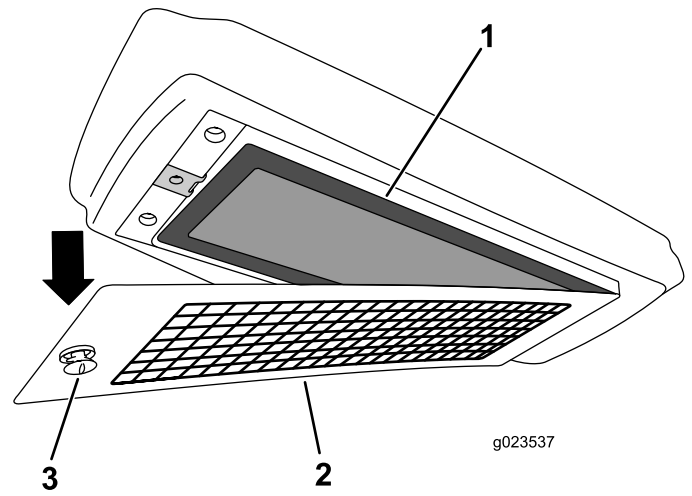

Figure 163
4. Remove the air filter from the housing, and replace the filter element (Figure 163).